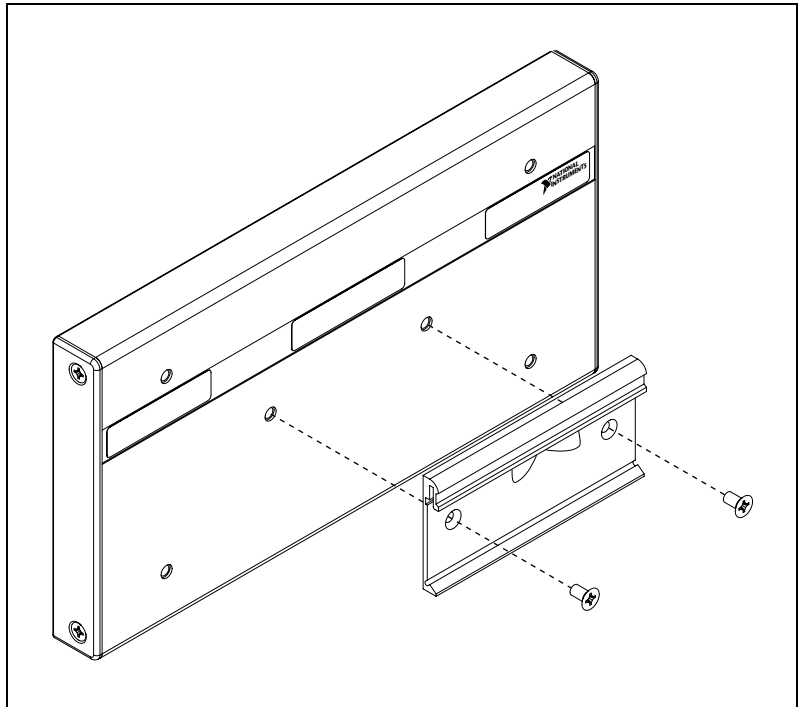

Figure 2-11. Fastening the DIN Rail Clip to the cFP-BP-4 Backplane
1. Fasten the DIN rail clip to the cFP-BP-4 using a number 2 Phillips screwdriver and the 8-32 \times 5/16 in. countersink screws shipped with the DIN rail clip(s). These screws have a nylon coating to prevent them from loosening. Refer to Figure 2-11.